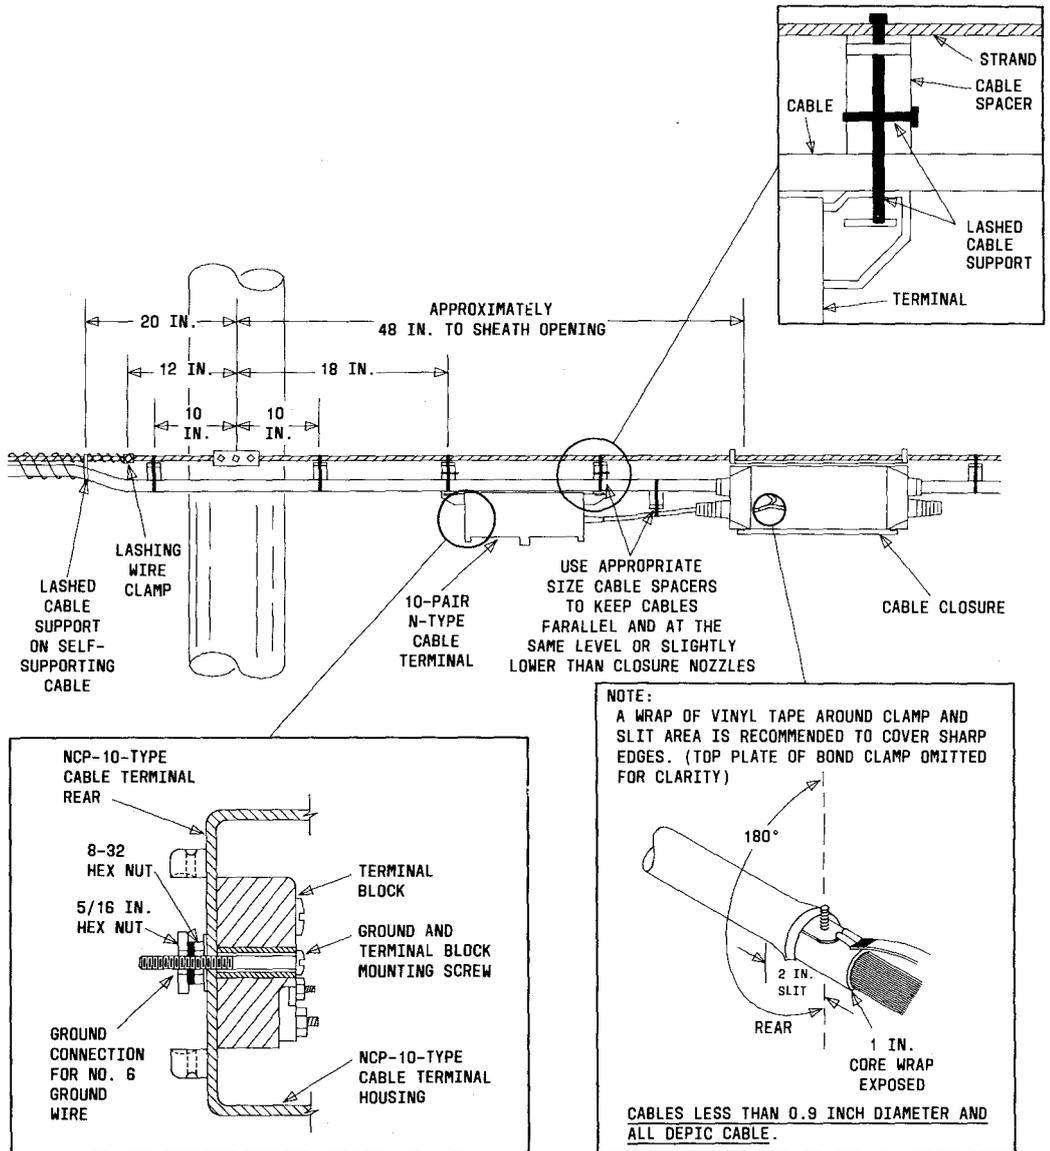

Fig. 10—Placing Strand-Mounted Cable Terminal
3.02 When possible, the 10-pair terminals should be placed as shown in Fig. 10.